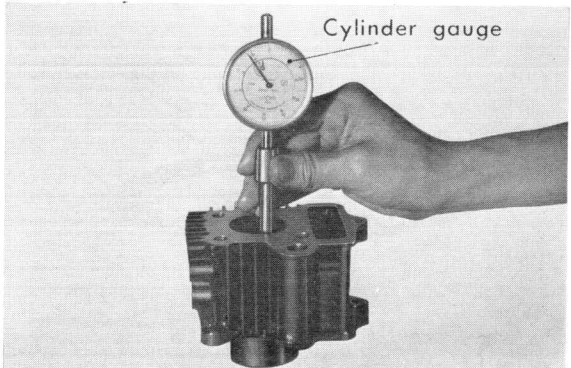

Figure 3-41. Measuring cylinder inside diameter
- (1) Cylinder bore, [] is for C50, C50M, S50 (Fig. 3-41, 3-42)